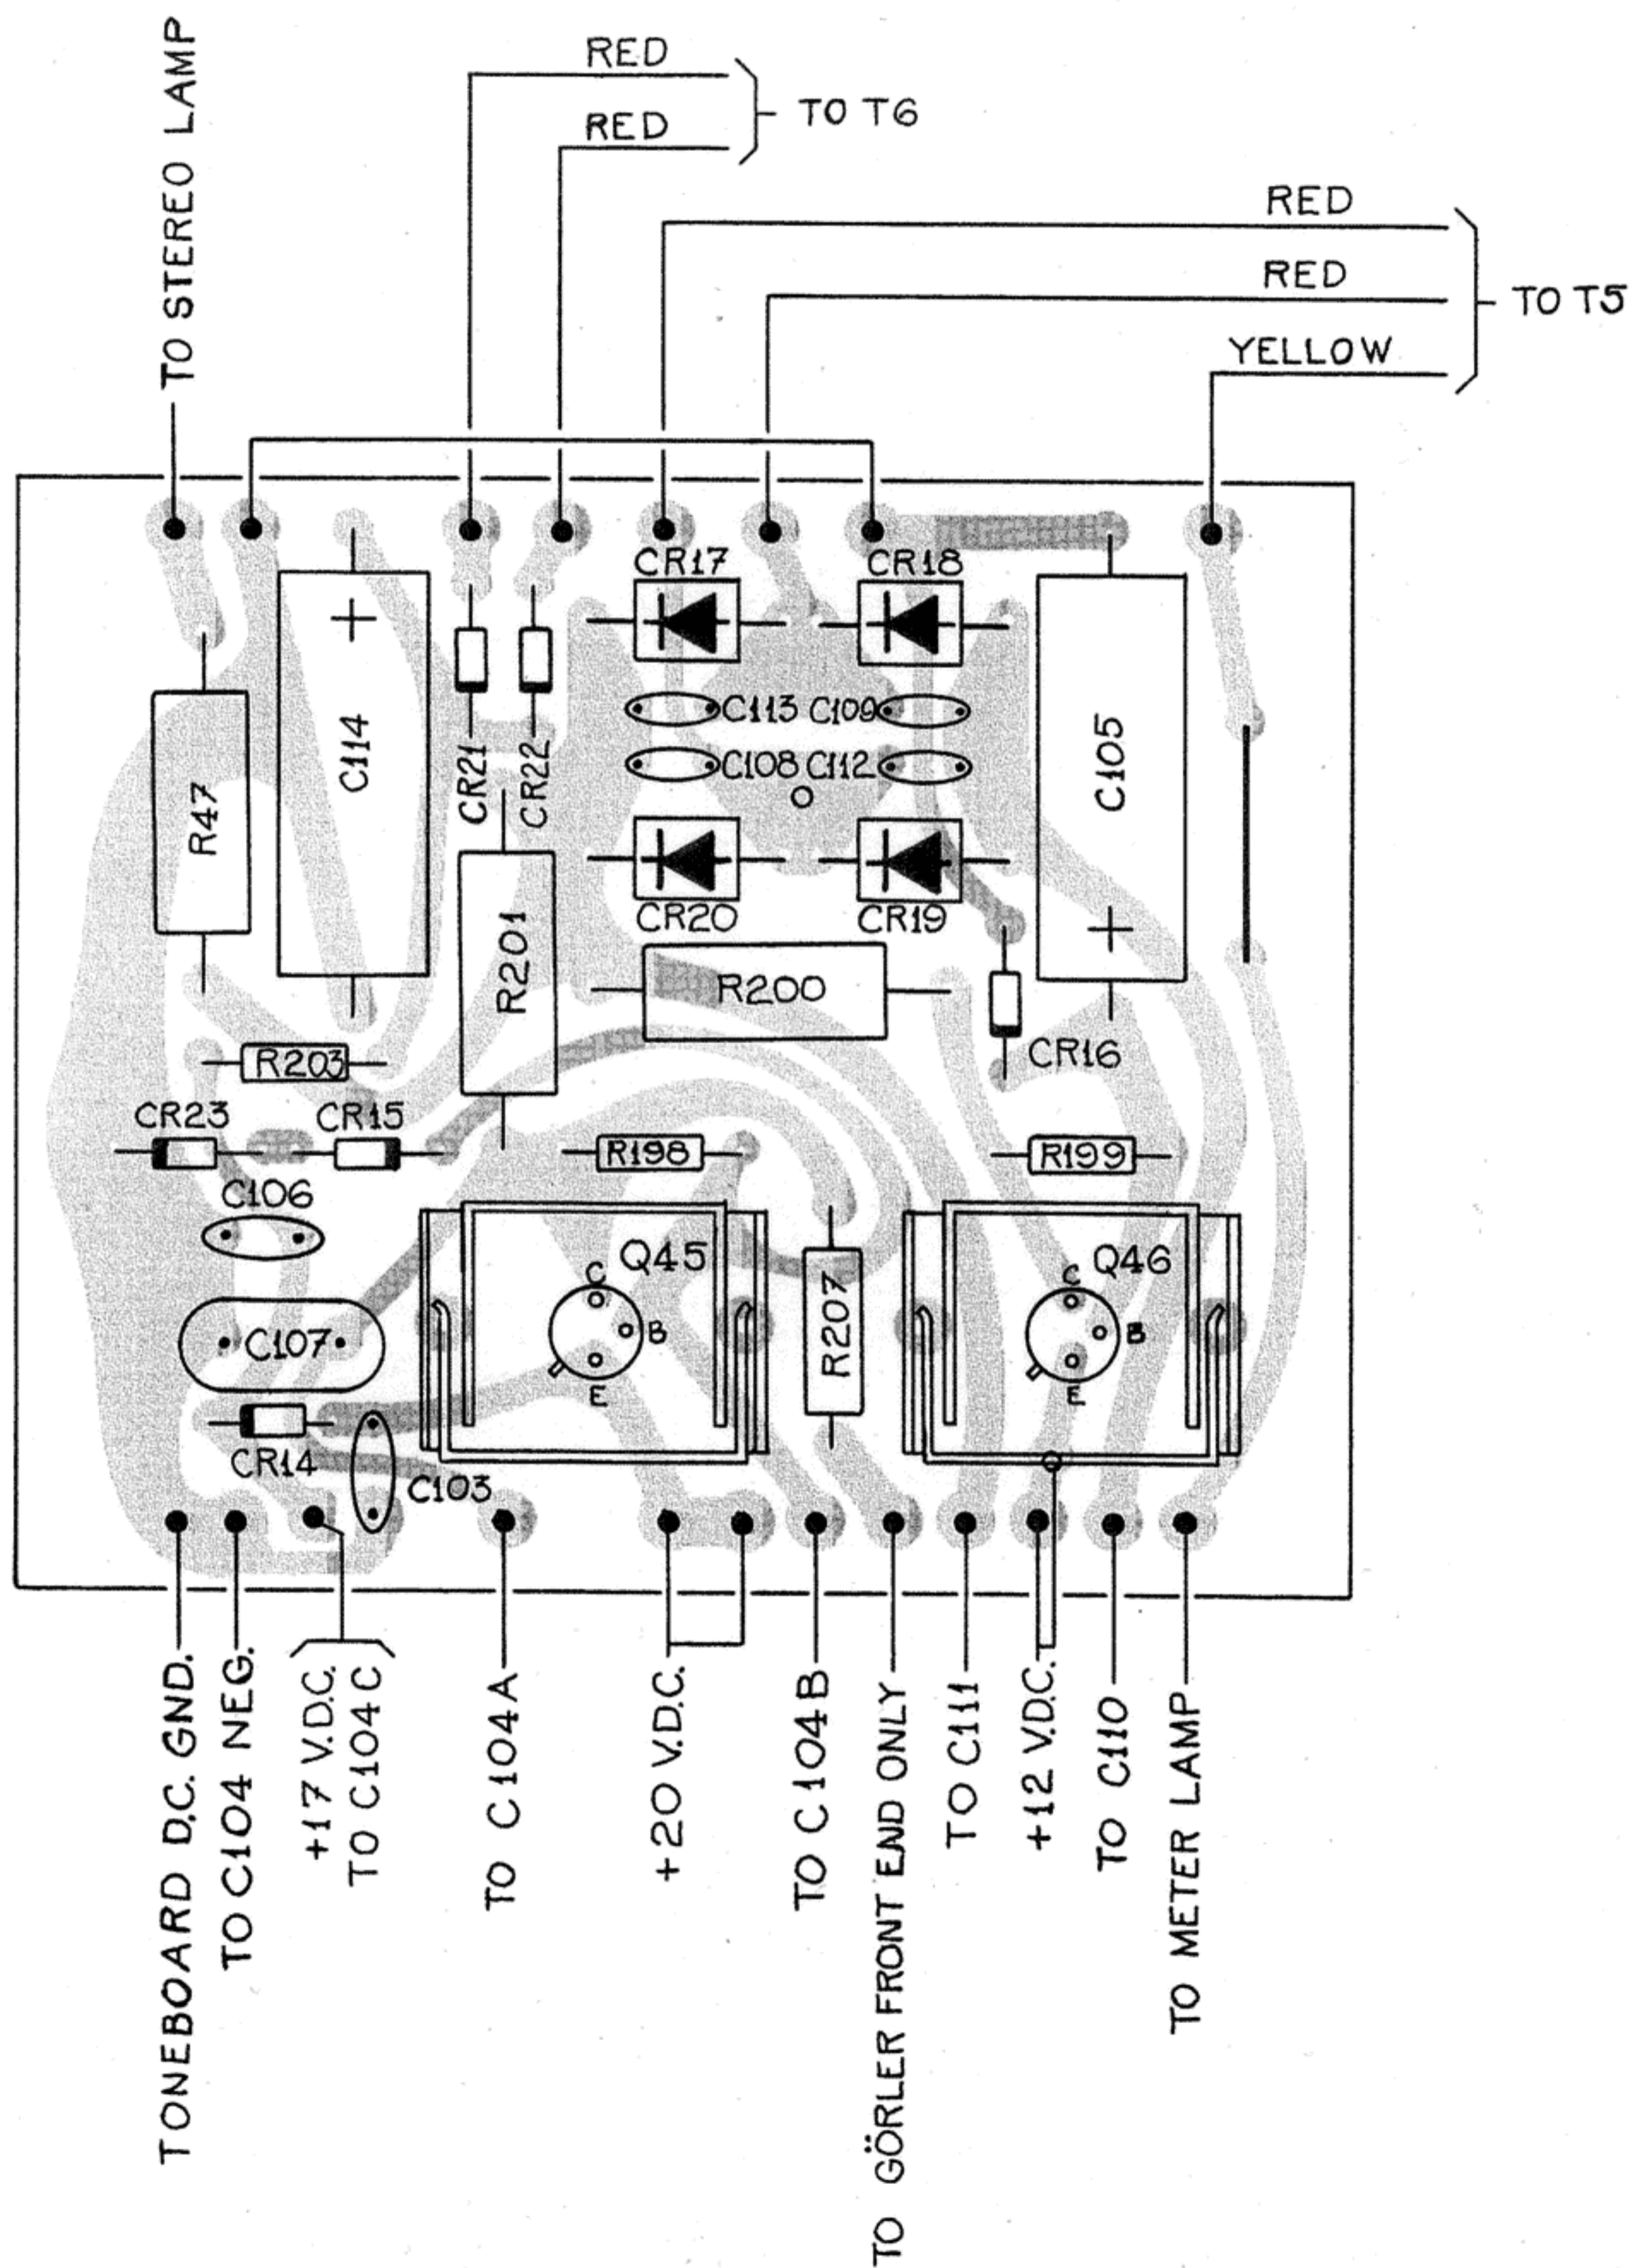

FIGURE 13
**a. IF Board:** There are no RC decoupling components in the +20 V DC feed to the noise amps. Receivers having the LC IF filter are provided with a bracket for mounting this to the front end. (See Figure 13.)